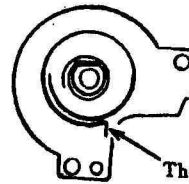

Fig. 120
Note : a) Pay attention to the position to mount the Spiral Spring. Make sure that the tip of the Spiral Spring in Fig. 120 is engaged with the slot of the Aperture Interlock Gear (A).
2. Install the Aperture Interlock Gear Shaft (A) (1AA77610) to the Aperture Interlock Base Plate Ass'y and secure it with the Hexagon Nut (66511722).